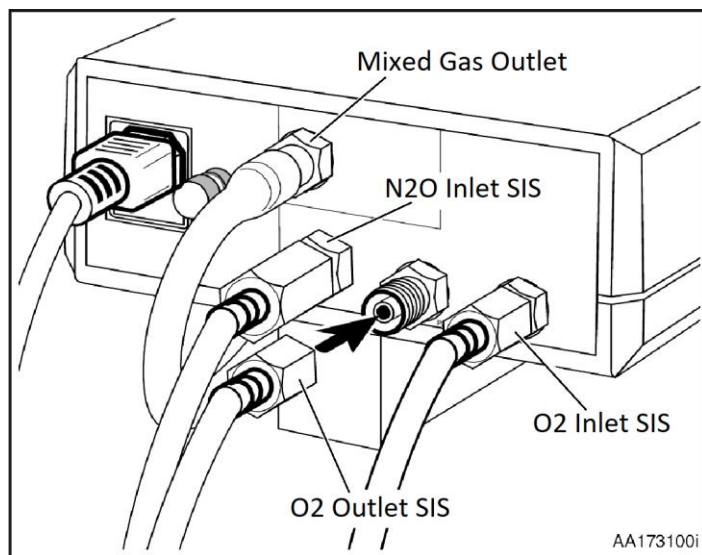

Figure 3: Connection to the back of unit.
1. Connect the SIS female hexagon fitting of the nitrous oxide hose to the male SIS, N₂O INLET, fitting on the back of the mixer head (see Figure 3). Hand-tighten and then finish tightening with a 7/8” inch open end wrench (approximately 1/8 turn). *Do not over-tighten.*
2. Connect the SIS female hexagon fitting of the oxygen hose to the male SIS, O₂ INLET, fitting on the rear of the unit (see Figure 3). Hand-tighten and then finish tightening with a 11/16” inch open end wrench (approximately 1/8 turn). *Do not over-tighten.*